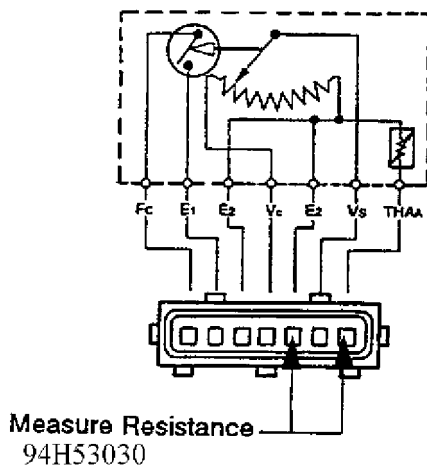

Fig. 3: Air Flow Meter Terminal
B) Using a multi tester, measure and record the resistance of the intake air temperature sensor terminals (THAA-E2) and the atmospheric temperature at that time. See Fig. 3 for terminal identification.
CAUTION: Refer to Fig. 3 and the "Standard Values" table when measuring resistance.